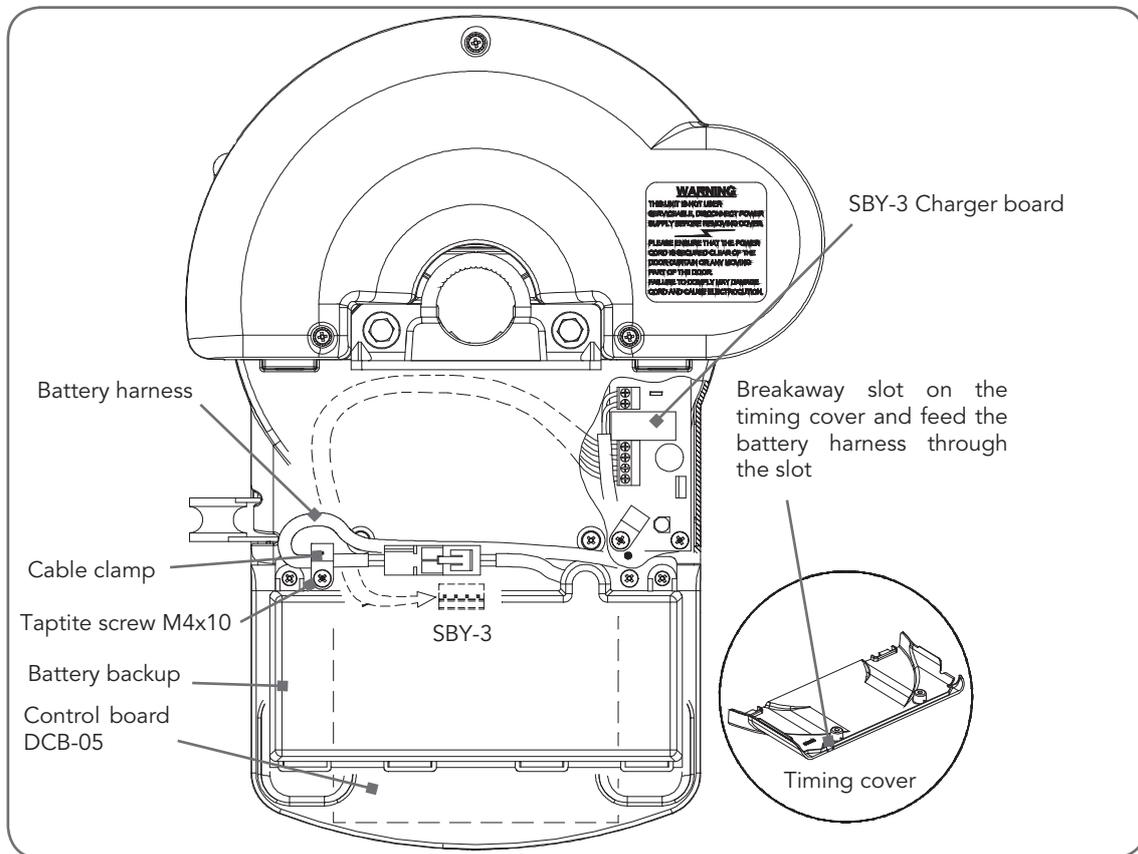

Fig 38
- Remove cable clamp and screw (**Fig. 38**). Retain cable clamp for later use.
- Mount the SBY-3 Charger Board on base and secure with four (4) Taptite 'P' M4 x 8 screws.
- Feed 4-Wire harness around timing assembly, through opening and plug into control board's SBY-3 connector (**Fig. 38**).
- Connect battery harness together (**Fig. 38**).